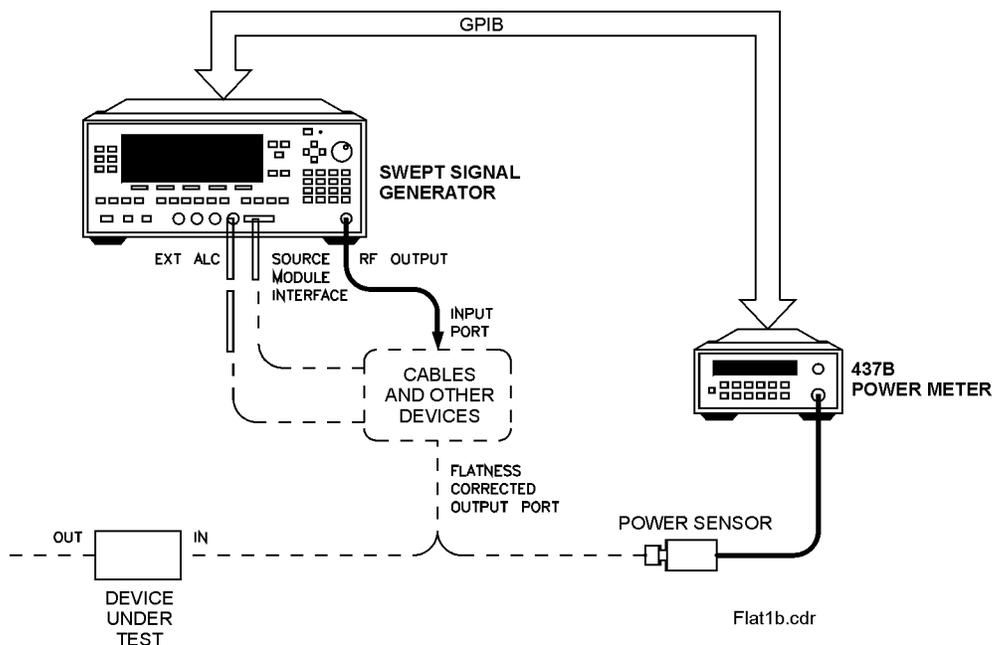
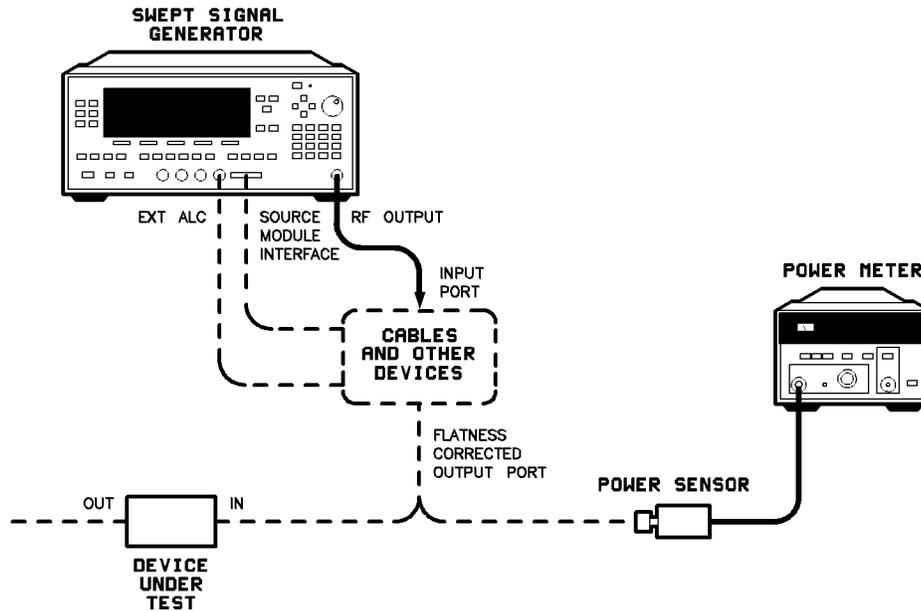

Figure 1-18. Creating a User Flatness Array Automatically
Figure 1-19. Creating a User Flatness Array
There are two basic front-panel methods of creating a flatness correction array. The first and quickest method is to use an HP/Agilent 437B power meter. Refer to Figure 1-18 for the setup. The second method is just as accurate, but requires a little more interaction between the operator and the instruments. Figure 1-19 shows the setup for the second method.
1. The equipment setup shown in Figure 1-18 assumes that if the setup has an external leveling configuration, the steps necessary to correctly level have been followed. If you have questions about external leveling, refer to “Externally Leveling the Swept Signal Generator”.
1. The equipment setup shown in Figure 1-19 assumes that if your setup has an external leveling configuration, the steps necessary to correctly level have been followed. If you have questions about external leveling, refer to “Externally Leveling the Swept Signal Generator”.